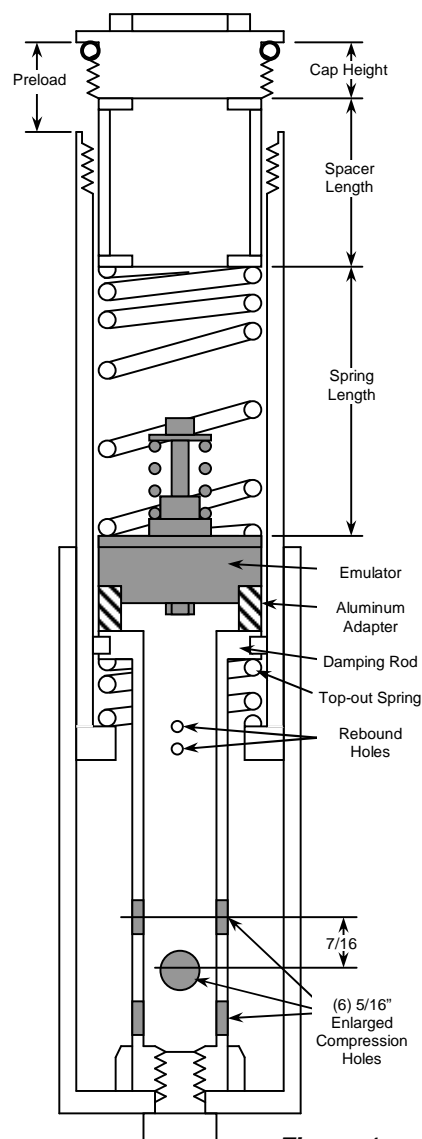

Figure 1
- 2 Drill the existing Compression Holes larger and add additional holes. No matter how many compression holes come stock, you must end up with six 5/16 inch (8 mm) holes (3 sets of 2 holes) (see Figure 1). When drilling new holes, space them lengthwise at 7/16" (10 mm) increments. Each set of two holes must be perpendicular to the last set (figure 1). After drilling, chamfer and deburr the compression holes, inside and out. **Do not modify the rebound holes.**
- 5 Spring preload is the amount the spring is compressed when it is installed with the forks fully extended. Do this step with no fork fluid. (See figure 1) Extend the fork all the way. **Install the Aluminum Adapter and the Emulator** by dropping them down the fork tube. The Emulator must sit on top of the Adapter with the Emulator Valve Spring facing up. Visually check to make sure the Emulator is sitting squarely on top of the Adapter.
Cut the spacers with a tubing cutter (available at hardware stores). Washers must be installed on both ends of the spacer. The spacer must not rest on the spring or the cap directly. Double-check your preload by stacking the spring, spacer, washers and cap and measuring the distance from the sealing lip on the cap to the top of the fork tube (see Figure 1).